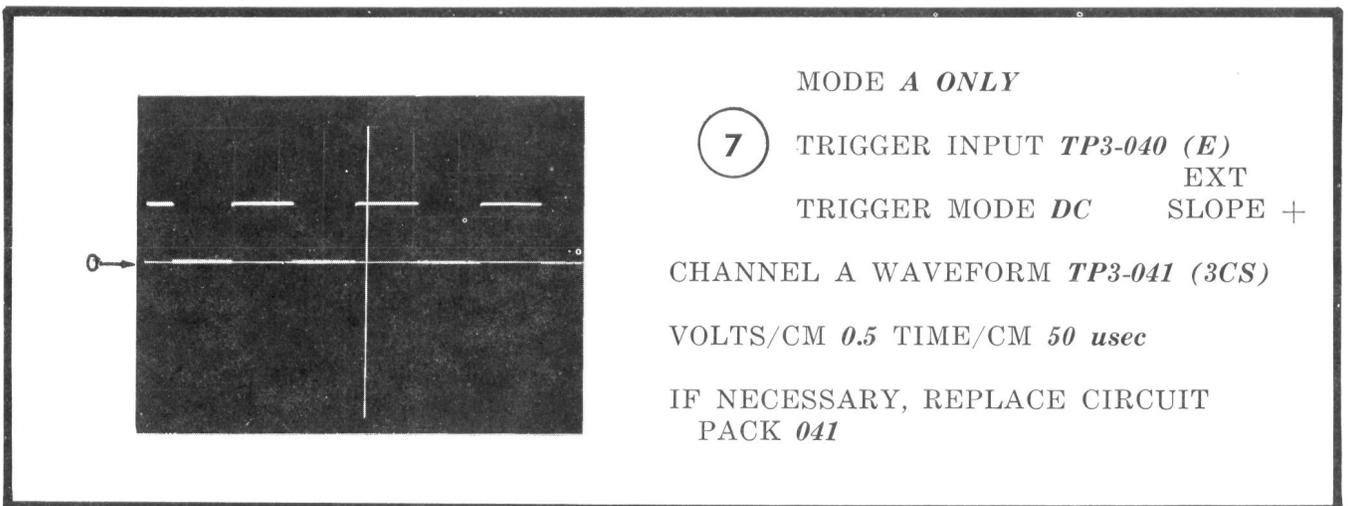

Fig. 9 — Transmitter Timing Test
9.19 Waveforms shown in Fig. 7 through Fig. 9 are keyed to the functional schematic shown in Fig. 10 (2 sheets). The waveforms illustrate normal operation of the flip-flop circuits when the data set is in TEST condition.